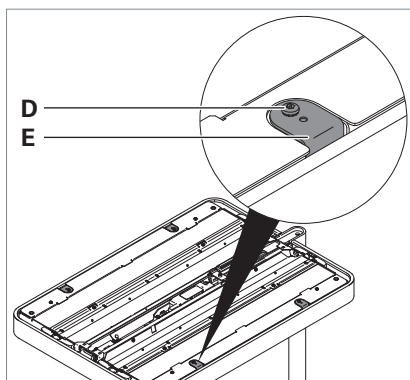

Fig. 22: Removing the locking elements.
- Unscrew all four locking screws **D** from the locking straps **E** using a screwdriver "TORX T15H", see Fig. 22.